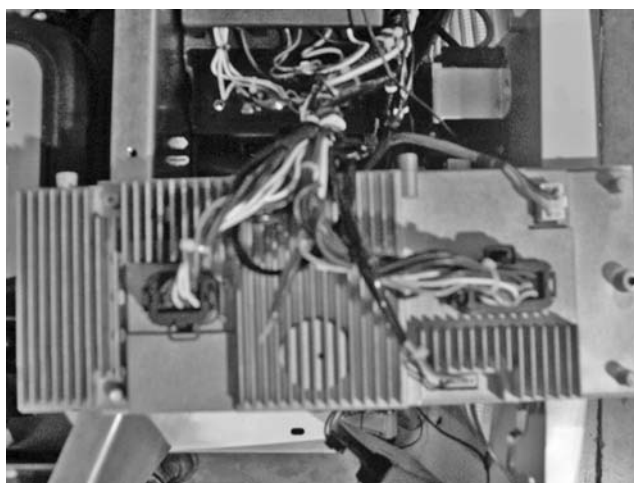

Figure 166.
3. **Remove control harnesses:** Disconnect all connectors and remove the controller. See Figure 166.